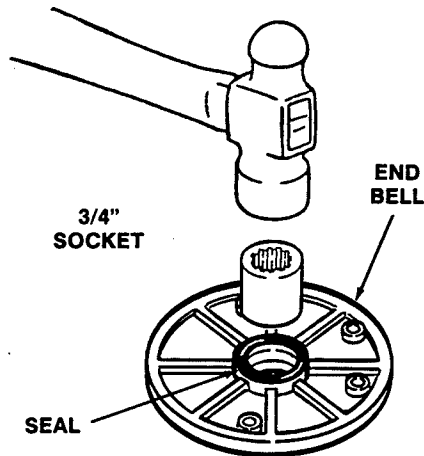

Figure 67. Installing New Seal
4. Use an object that is the same size as a 3/4" socket and a hammer to tap in the new seal. (See Fig. 67.)